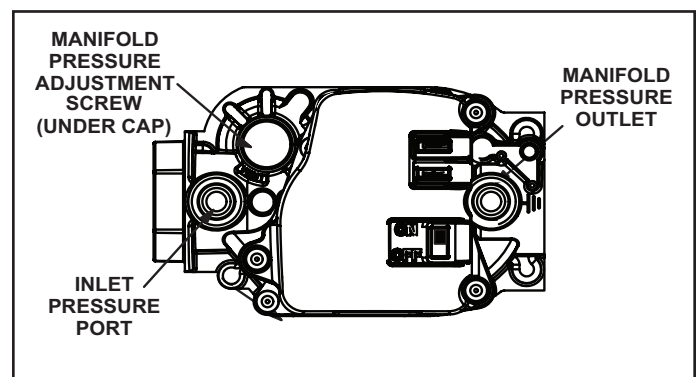

Figure 65. Gas Valve Shown in "ON" Position
See Figure 65
6. Move gas valve switch to OFF. See Figure 65.
8. Move gas valve switch to ON. See Figure 65.